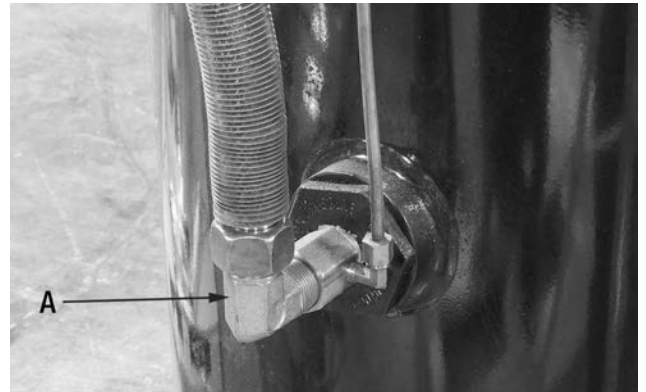

FIGURE 7
**CHECK VALVE (A) FIG.7.** When the air compressor is operating, the check valve is “open”, allowing compressed air to enter the air tank. When the air compressor reaches its “Cut-Out” pressure, the check valve “closes”, allowing air pressure to remain inside the air tank.